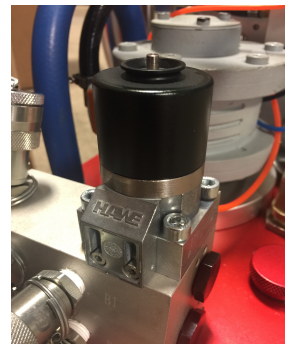

Figure 3
- a. To release pressure from system, press the button on top of the solenoid. (Figure 3)